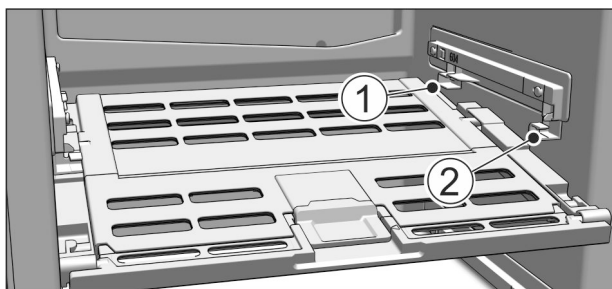

Fig. 62
- Replacing the Fruit & Vegetable safe cover: Guide the ridges on the cover into the rear brackets Fig. 62 (1) and click it into the front bracket Fig. 62 (2).